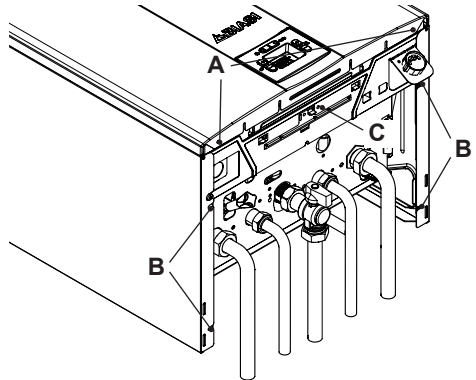
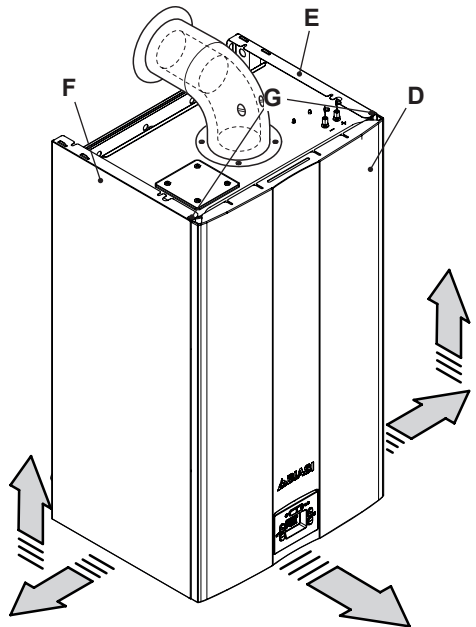

Figure 9.1
Figure 9.2
- Unscrew the screws **A** and **G** then remove the front panel **D** by pulling it towards you (Figure 9.1 and Figure 9.2).
Loosen screws **B** in Figure 9.1 and remove the two side panels **E** and **F** pulling them outwards and pushing them upwards to re-
- Unscrew the screw **C** in (Figure 9.1).